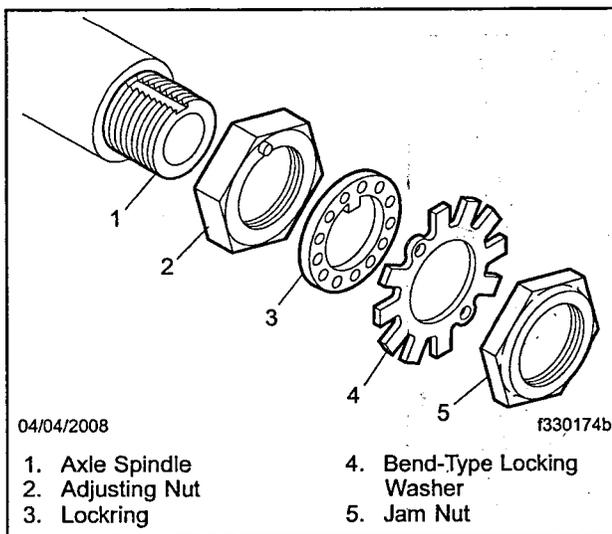
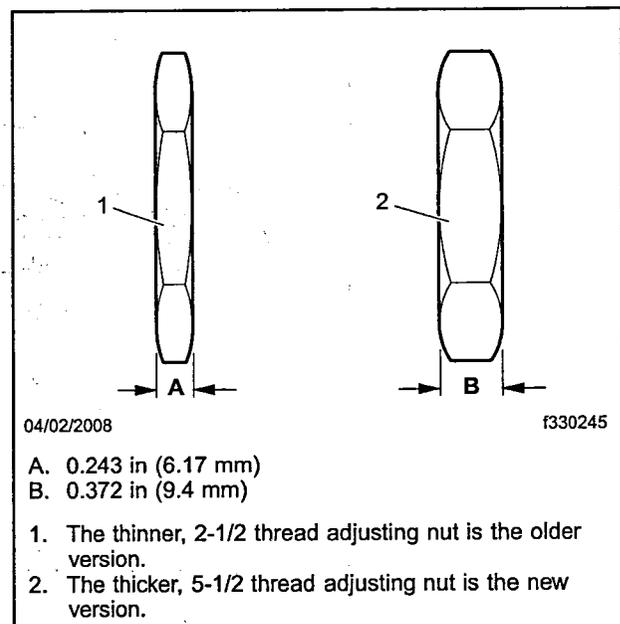

Fig. 5, New Four-Piece Spindle Nut Set
Fig. 6, Wheel-Bearing Adjusting Nuts
2. Install the new spindle nut set, which includes the thicker wheel-bearing adjusting nut. See Fig. 5 and Fig. 6.
- 2.5 Install the lockring (as described in the note above), bend-type locking washer, and jam nut. See Fig. 5.